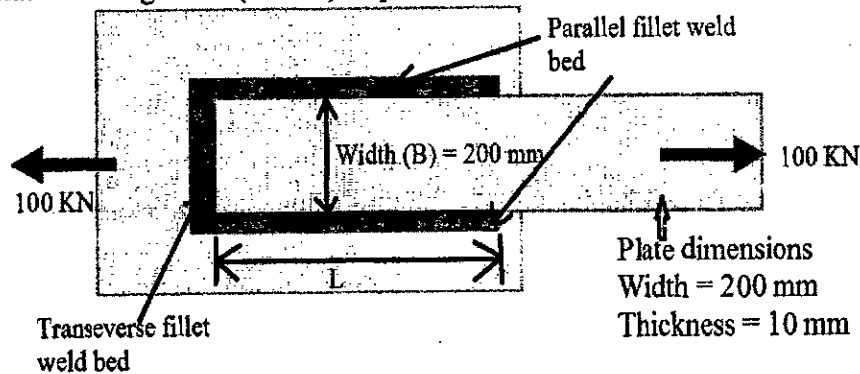

Figure 1
- (b) Consider two plates are welded using two parallel and one transverse fillet weld bed as shown in figure 1. A tensile load of magnitude 100 KN applied to assembly of which top plate has following dimensions (width=200 mm and thickness=10 mm). If 'allowable tensile stress' of filler metal (weld bed) is 80MPa. Calculate the length 'L' (in mm) of parallel fillet weld? 6